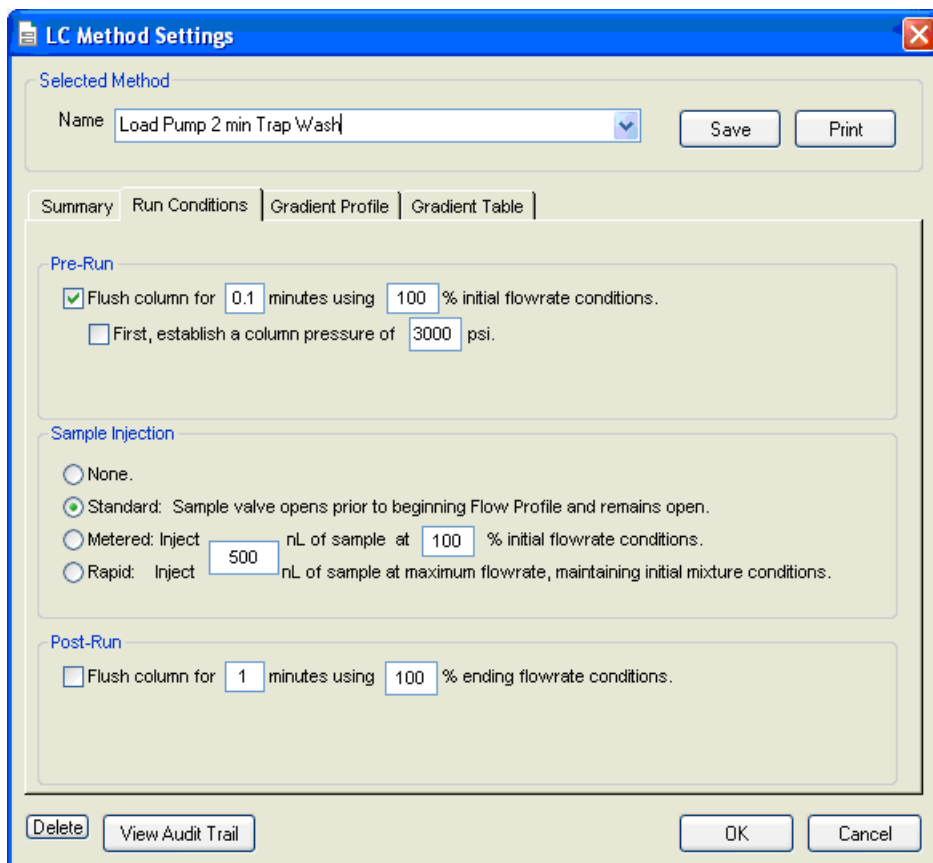

Figure 3-4 LC Method Settings dialog—Run Conditions tab
- On the **Run Conditions** tab, specify conditions as shown in Figure 3-4.